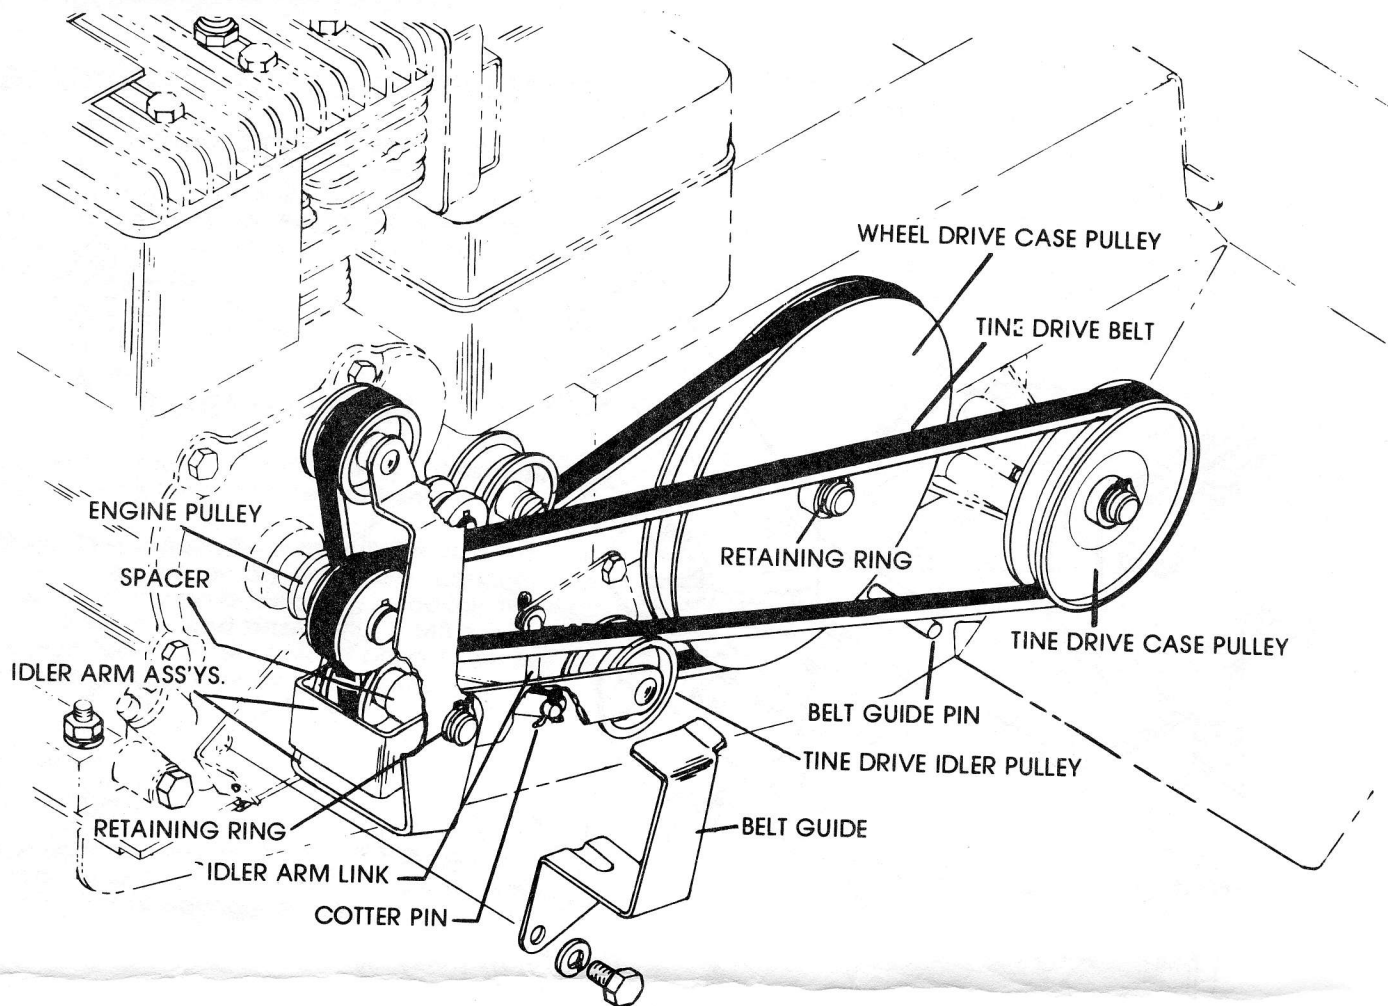

FIG. 13
3. Remove the belt guide (Figure 13).
6. To replace belt, reverse above procedure. Be sure belt is on top of tine drive idler pulley and the belt guide pin near the tine drive case pulley (Figure 13).
2. Remove the retaining ring in the idler arm shaft (Figure 13).
4. Remove wheel drive pulley by removing retaining ring and sliding pulley off shaft. (CAUTION: Do not lose woodruff key in drive pulley shaft.) (Figure 13).
5. Remove cotter pin from idler arm link (Figure 13).
6. Slide idler arm assemblies out until the spacer can be slid out between the idler and idler arm. Remove belt. To replace belt, reverse above procedure. Be sure belt is turned inside out (wide side on pulleys) before installing in pulleys (Figure 13).